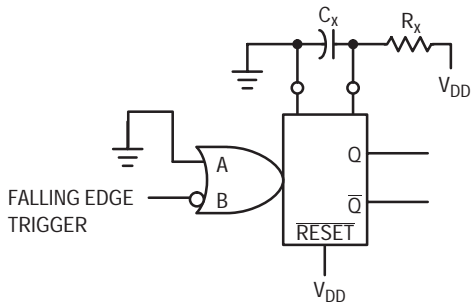

Figure 9. Use of a Diode to Limit Power Down Current Surge
7. If  $C_X > 15 \mu\text{F}$ , Use Discharge Protection Diode  $D_X$ , per Fig. 9.